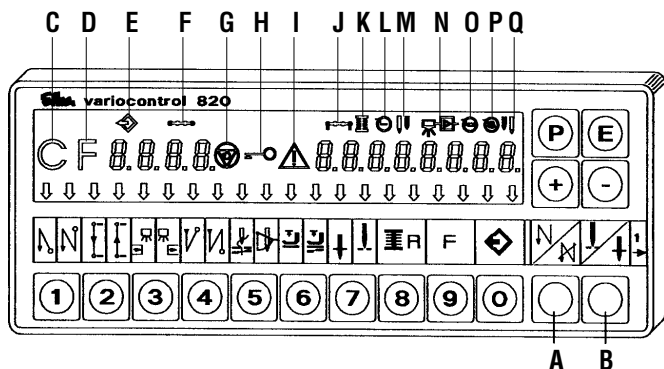

Fig. 17
8.2.2 By using stop motor Efka with panel V 820 (Fig. 17)
8.2.2.1 Adjustment by means of buttons with fixed setting function (Fig. 17)
8.2.2.2 Setting by means of parameters (Fig. 17)